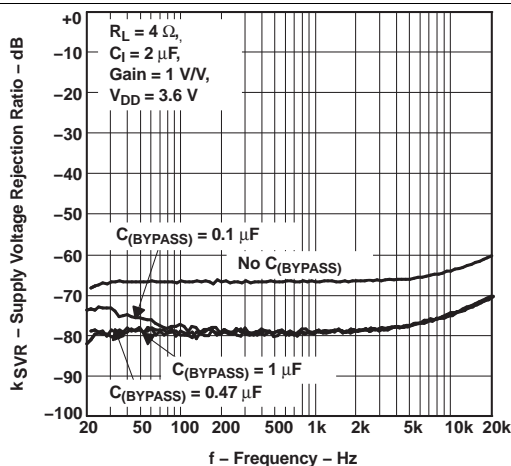

Figure 17. Supply Voltage Rejection Ratio vs Frequency
- **Mid-supply bypass capacitor, $C_{(BYPASS)}$, not required:** The fully differential amplifier does not require a bypass capacitor. Any shift in the mid-supply voltage affects both positive and negative channels equally, thus canceling at the differential output. Removing the bypass capacitor slightly worsens power supply rejection ratio (k_{SVR}), but a slight decrease of k_{SVR} may be acceptable when an additional component can be eliminated (See Figure 17).